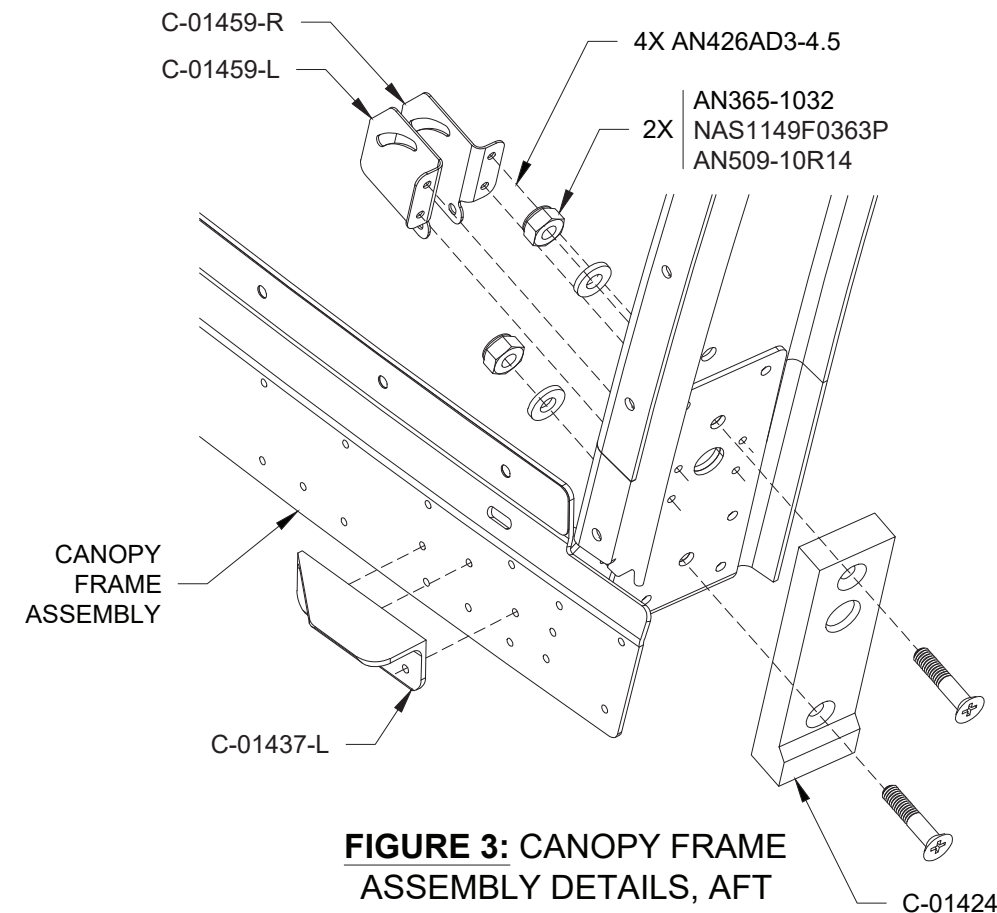

FIGURE 3: CANOPY FRAME ASSEMBLY DETAILS, AFT
Step 3: Rivet the C-01459-L & -R Switch Brackets to the Canopy Frame Assembly as shown in Figure 3.
Step 4: Install the C-01424 Canopy Pin Blocks as shown in Figure 3.
Step 5: Cleco the C-01437-L & -R Canopy Handles to the Forward Canopy Frame Assembly as shown in Figure 3.